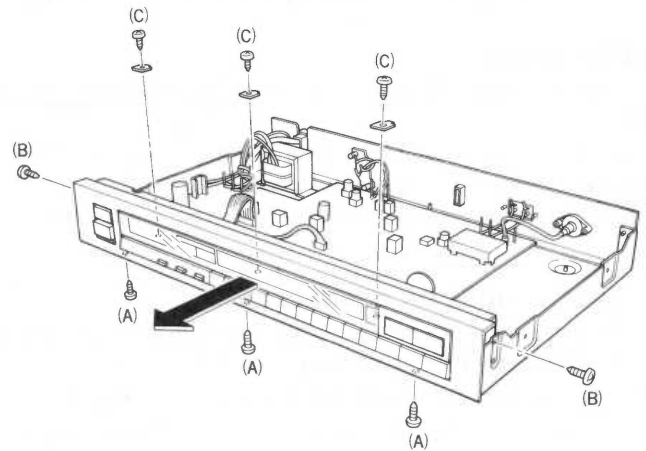

Fig. 7
2. How to remove the front panel ass'y (Fig. 7)